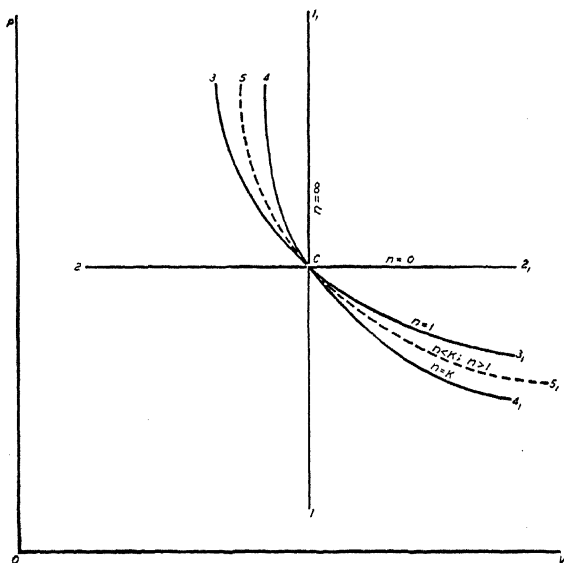

Fig. 18
The point, C , in Fig. 18, represents a given condition as to pressure and volume of an ideal gas. One horizontal line, 1 1₁, one vertical line 2 2₁, and a very large number, in fact an infinite number, of curved lines, such as 3 3₁, 4 4₁, and 5 5₁, could be drawn through point, C . Each would represent a polytropic process by its PV -diagram, and would follow the law, given by formula (84), $PV^n = \text{a constant}$. Although these processes follow the same law, their PV -diagrams are different lines due to the fact that each process has its own numerical value for n . Therefore in the general polytropic field there is an infinite number of processes for, as previously stated, n can take any positive or negative numerical value. Of all of these possible
This is the condition of a constant volume process. Hence a polytropic, where $n = \infty$, is the constant volume process with which we have dealt in this chapter. It is indicated in Fig. 18 by the vertical line, 1 1₁, along which $n = \infty$ has been written.
In other words a polytropic process in which $n = 0$, is a process during which the pressure is constant, or a constant pressure process. This is shown in Fig. 18 by the line, 2 2₁, along which is written $n = 0$.
But this is the statement of Boyle's Law and can be true only under the condition of a constant temperature; so that when $n = 1$ during a polytropic, the latter is in reality an isothermal or constant temperature process. Fig. 18 presents it as the curve, 3 3₁.
which will be immediately recognized as the fundamental formula of the adiabatic process. Therefore a polytropic change of state during which $n = k$ is an adiabatic process, represented in Fig. 18 by the curve, 4 4₁.
which n takes values between 1 and k . These are processes which represent the actual compression of air in air compressors and the actual expansion of the working substance in internal-combustion engines. If we were to plot the curve of $PV^n = \text{a constant}$ where n is given some value between unity and k , it would fall somewhere between the isothermal curve, 3 3₁, and the adiabatic curve, 4 4₁, of Fig. 18. Such a curve is shown in Fig. 18 by the dotted line. The so-called polytropics of engineering practically always fall within this rather restricted area.